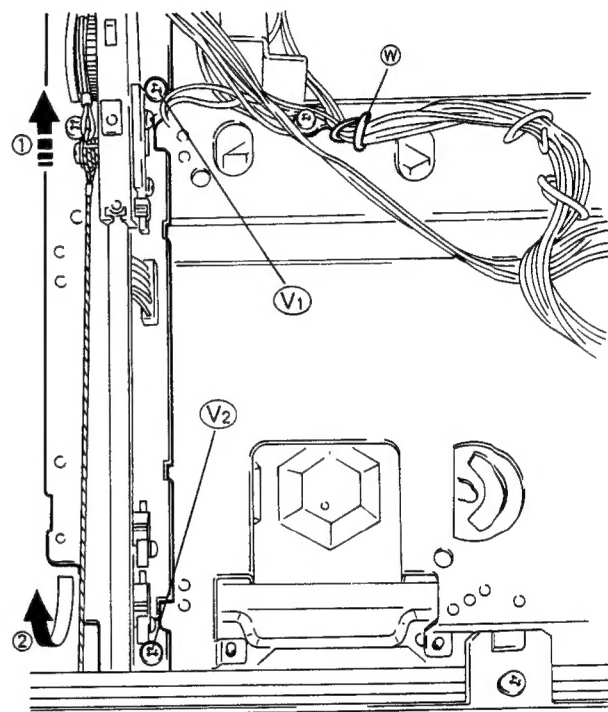

Fig. 2-7.
2. Remove the screws V_1 and V_2 fixing the loading mechanism assembly and the lead wire from cord stopper W . (Refer to Fig. 2-7.)